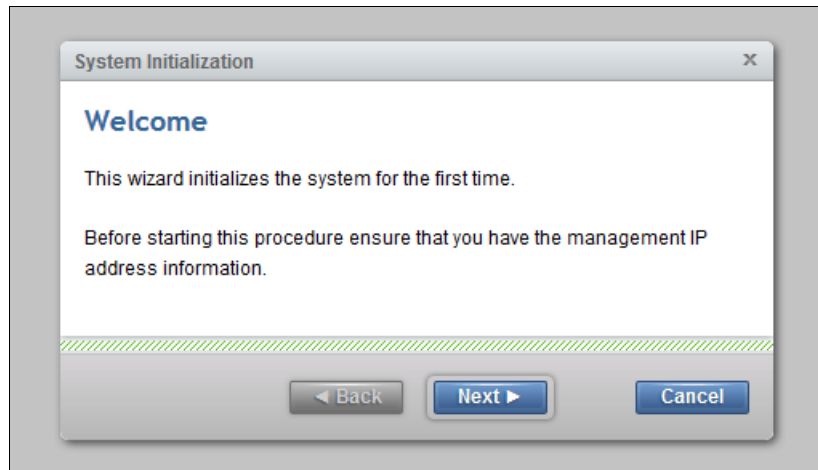

Figure 2-16 System initialization: Welcome
4. After the Ethernet port of the personal computer connects, open a supported browser and browse to the address `http://install`. (If you do not have DHCP, open a supported browser and go to this static IP address: 192.168.0.1.) The browser is automatically directed to the initialization tool, as shown in Figure 2-16.